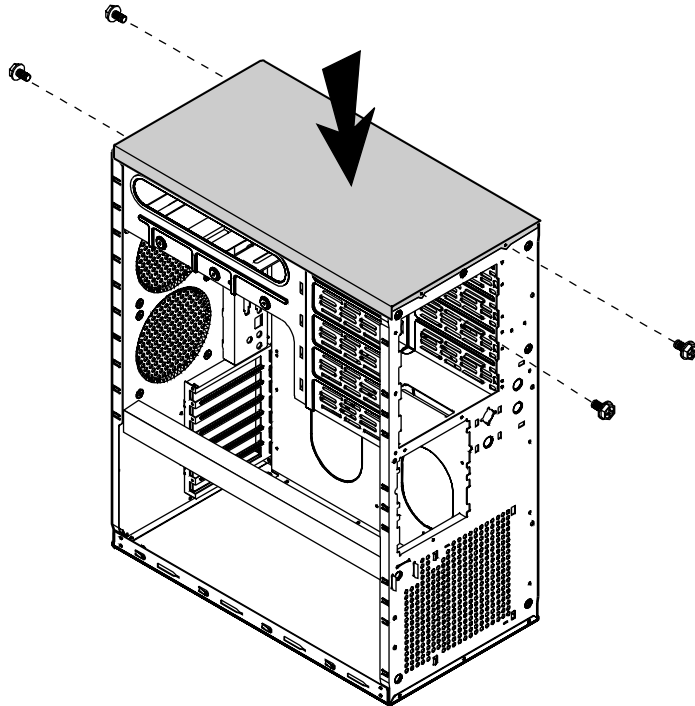

Figure 4: Replacing the Top Cover
1. Align the top cover with the ledges on the chassis. See Figure 4.